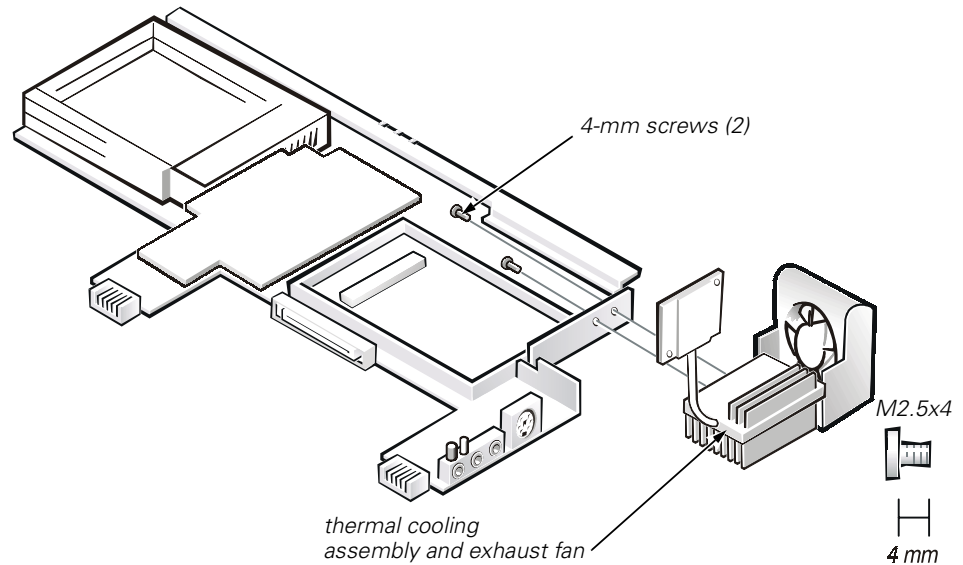

Figure 23. Thermal Cooling Assembly Removal
10. Remove the two 4-mm screws securing the thermal cooling assembly and exhaust fan, and then remove the thermal cooling assembly and exhaust fan (see Figure 23).